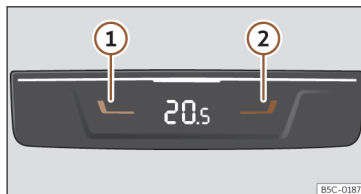

Fig. 131 In the rear part of the centre console: controls for the rear seats.
- Press buttons **1** and **2** >>> **Fig. 131** to adjust the temperature of the rear zone.